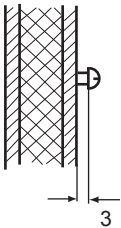

Fig. 3
2. Insert one of the wood screws into the top center hole. The power element is hooked onto this screw. Therefore, leave the screw out by ca. 3 mm (Fig. 3).